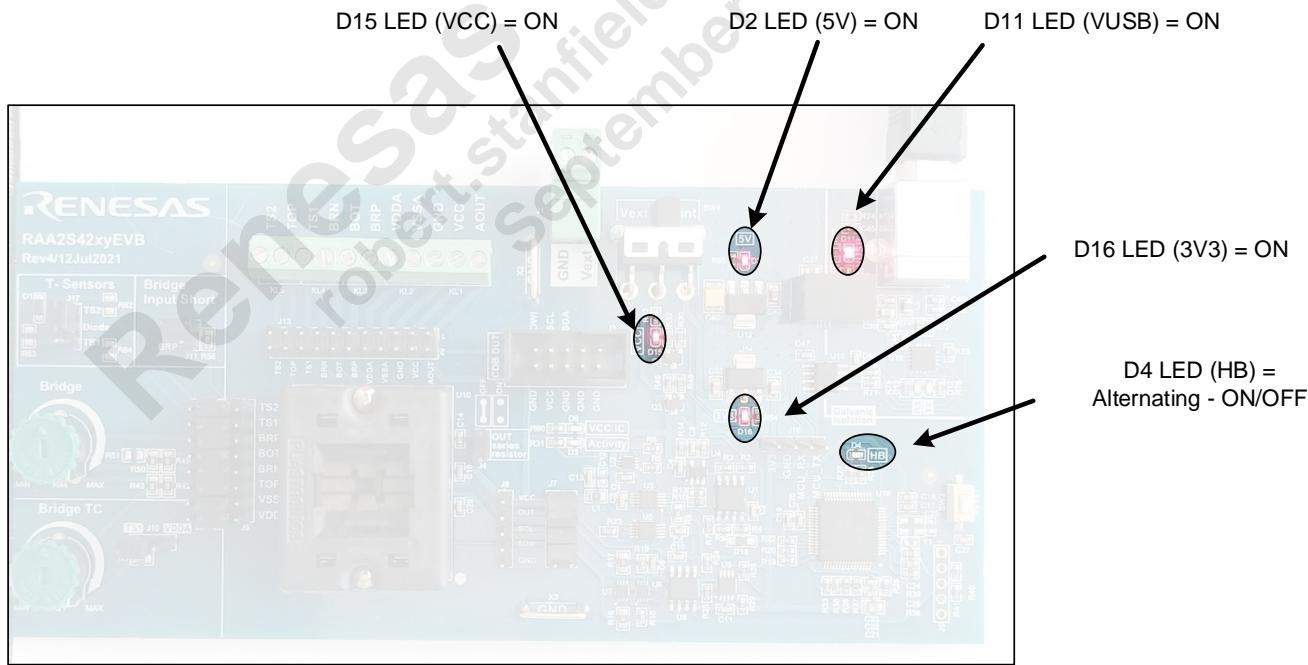

Figure 4. Evaluation Boards LEDs
6. Check that the status of the LEDs is as shown on Figure 4.